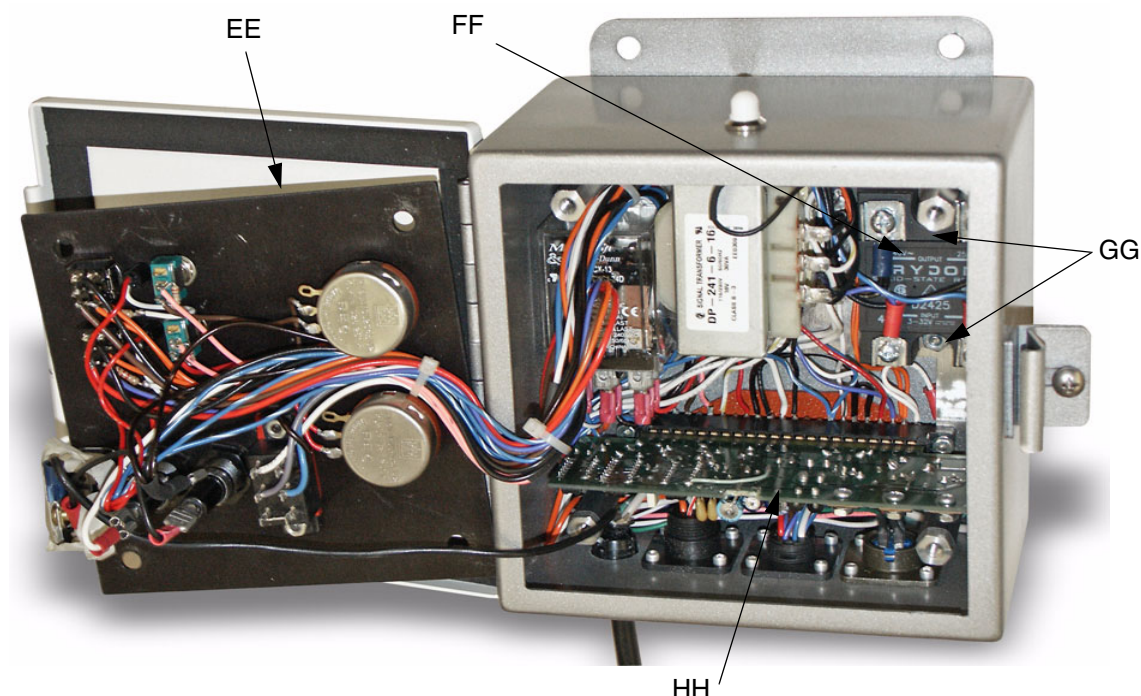

FIG. 5: Timer repair
1. See FIG. 5. Remove four screws holding front panel (EE) onto timer. Remove front panel.
2. Remove two screws (GG). Remove relay (FF). Replace with 15 amp relay 118261.
2. Pull out control board (HH) and replace. For replacement, order repair kit 118182.